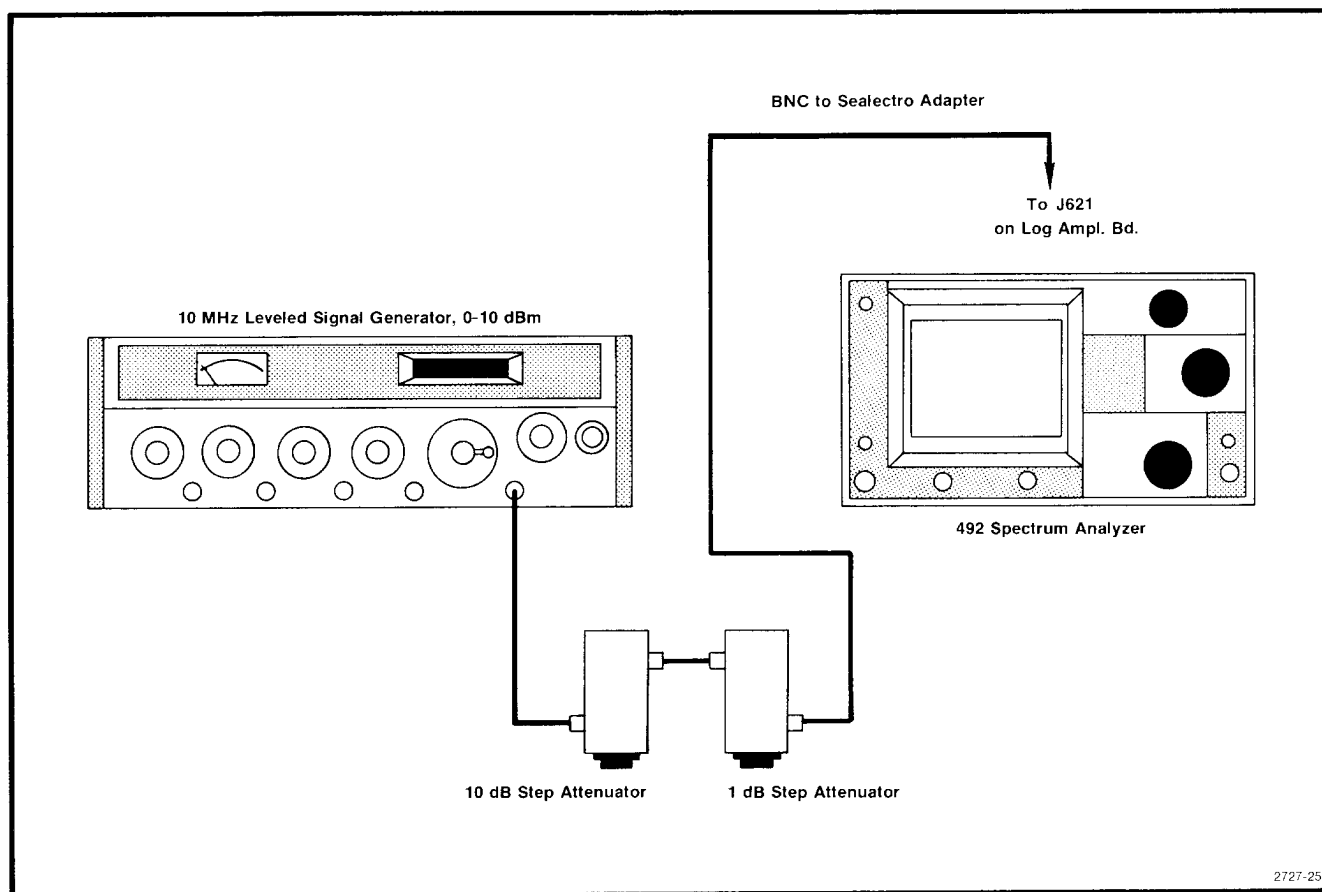

Fig. 3-39. Equipment setup for calibrating log amplifier.
a. Test equipment setup is shown in Fig. 3-39. Set the front-panel controls as follows: